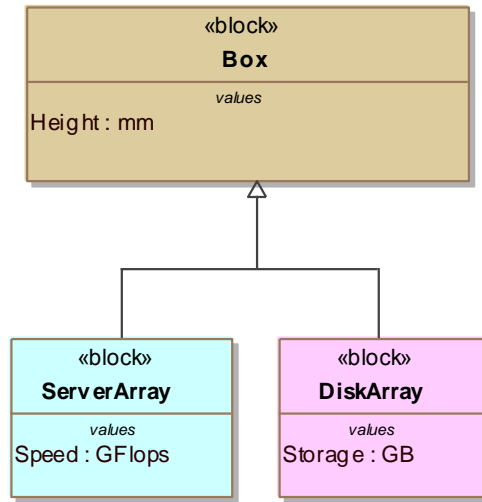

Figure 9.3 Generalization
- iv. Repeat for **DiskArray**. See Figure 9.3 (the two generalization arrows have been merged).